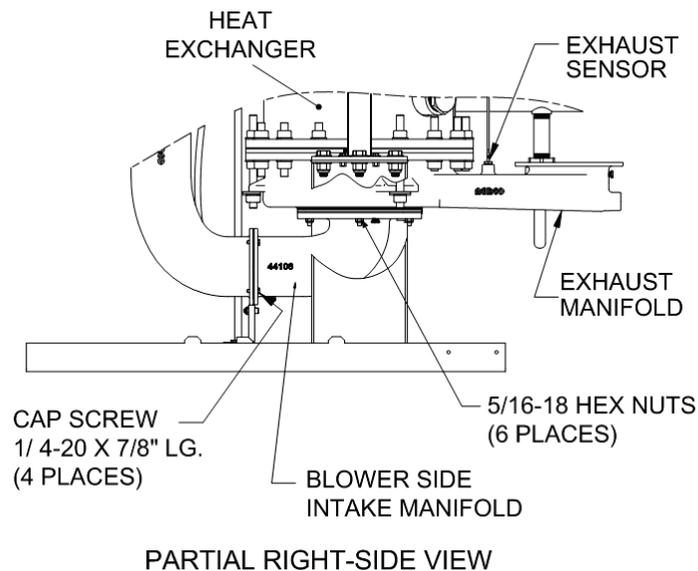

Figure 6-3. Blower-Side Intake Manifold & Exhaust Manifold Locations
10. Refer to Figure 6-3. Loosen and remove the four (4) 1/4-20 cap screws securing the blower side of the intake manifold (44106). **DO NOT REMOVE** the two 1/4-20 screws and nuts securing the manifold support bracket.
11. While supporting the blower-side intake manifold, loosen and remove the six (6) 5/16-18 hex nuts securing it to the studs protruding from the exhaust manifold.
12. Carefully lower and remove the blower side intake manifold (44106), burner assembly (46023), burner gasket (18899) and fiber frax gasket (124749) from the unit. See Figures 6-3 and 6-4.
13. Disconnect the exhaust temperature sensor (Figure 6-3) by unscrewing it from the exhaust manifold.